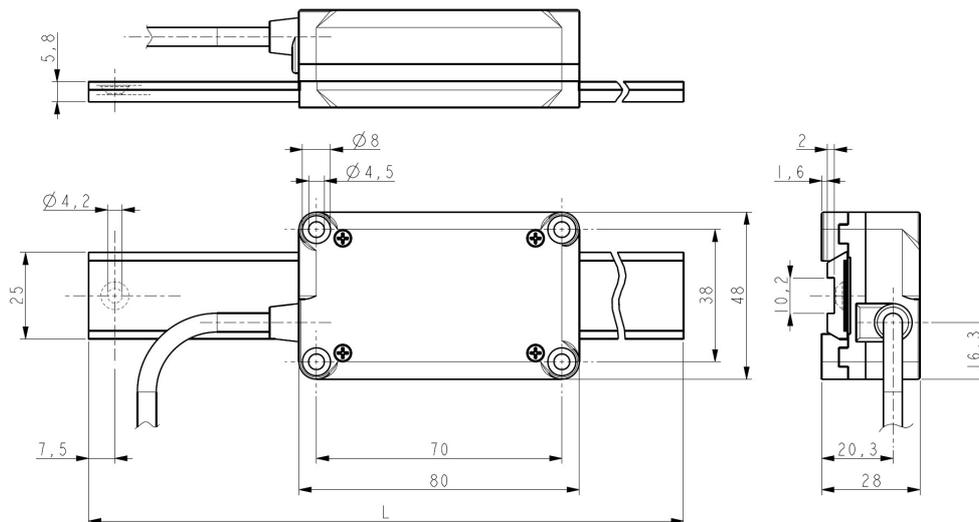

Figure 1
3.1 Overall dimensions (Figure 1)
Use **four TCEI M4 UNI 5931 type cylinder head screws** inserted from the top in the holes provided at the four angles of the enclosure. The screws must be 30 mm min. long (see Figure 1). **The maximum tightening torque is 1.2 Nm.** We suggest adding a few drops of threadlocker of medium bond strength.
3.5 Measuring length (Figure 1)
The **maximum tape length L** is between 195 mm / 7.677" and 650 mm / 25.59" (for further information refer the order code in the product datasheet). As the sensor area has always to be fully within the limits of the tape magnetic surface, then the **maximum measuring length ML** is the maximum tape length minus the sensor length (see the Figure 1) = $L - 80 \text{ mm} / 3.149" (115 \text{ mm} / 4.528" \div 570 \text{ mm} / 22.441")$.